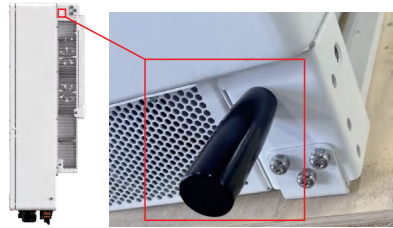

Figure 3.4
3. Mount the two black handrails to the inverter sides at the marked positions (Figure 3.4).